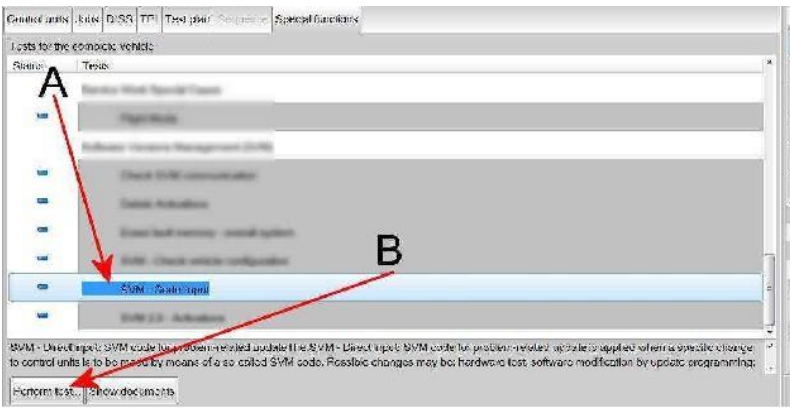

Figure 5
8) Referring to Figure 5 - Within the Special functions tab - Select SVM - Code Input (Point A)